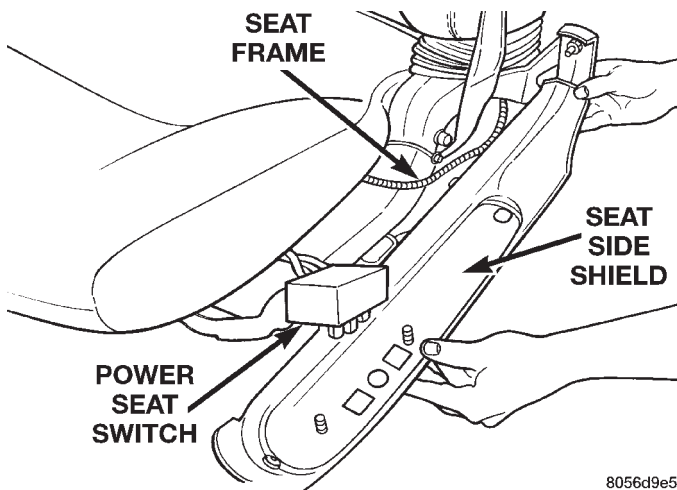

Fig. 3 Front Seat Side Shield
- (1) Remove lower recliner handle.
- (2) Remove screws holding seat side shield to seat frame.
- (3) Remove screws holding power seat switch to side shield, if so equipped.
- (4) Separate side shield from vehicle (Fig. 3).